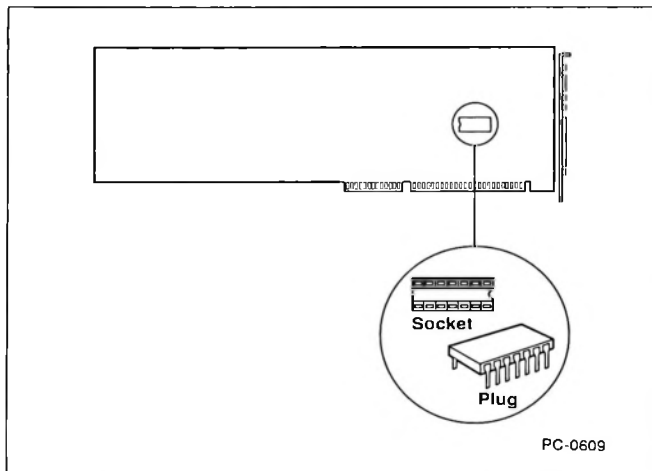

Figure 6-18 Location of the PC selection socket on the Above™ Board
- 6 Lay the Above Board on a clean, dry surface and insert the PC selection plug in the socket shown in Figure 6-18.